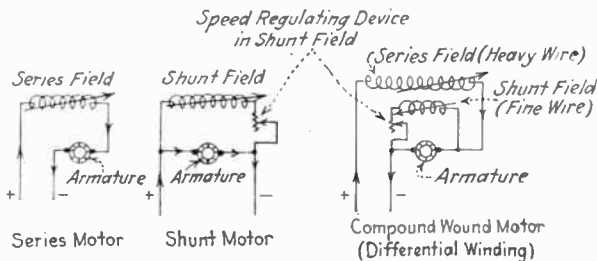

FIG. 64.—Wiring diagrams of series-, shunt-, and compound-wound motors.
*Ans.* The diagram (Fig. 64) illustrates a shunt-wound motor with a field rheostat for regulating the speed. Increasing the resistance in the motor-field circuit increases the speed of the motor; decreasing the resistance decreases the speed.
*Ans.* See Fig. 64.